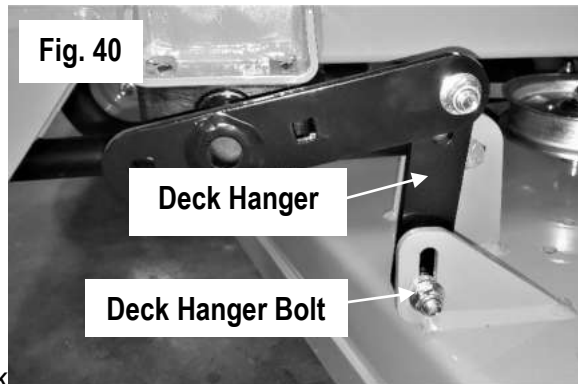

Fig. 40
4. Using a pair of 9/16" wrenches, loosen all deck hanger bolts on the top of the deck. These are the lower bolts in the slots of the deck as shown in Fig. 40. Do not loosen the upper bolts that attach the deck hangers to the actuator lift bars.